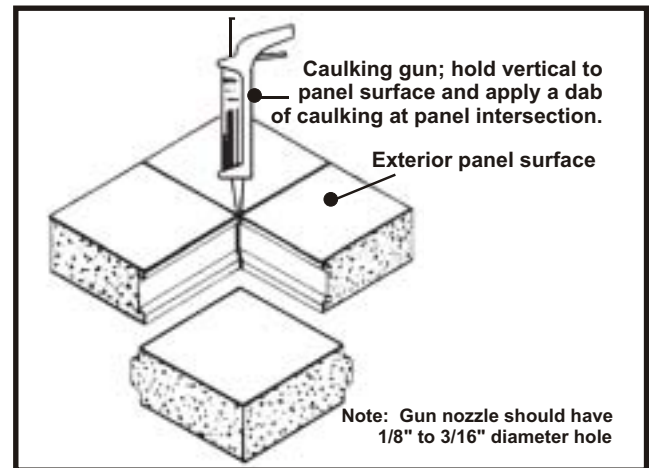

Fig. 7
- B. Unfortunately, internal dripping does not always occur directly across from the vapor leak. Locating a leak can therefore be troublesome. In order to avoid time-consuming search procedures, caulk the exterior junction of three or more panel joints. See Fig. 7. Most leaks caused by settlement will be at these points.